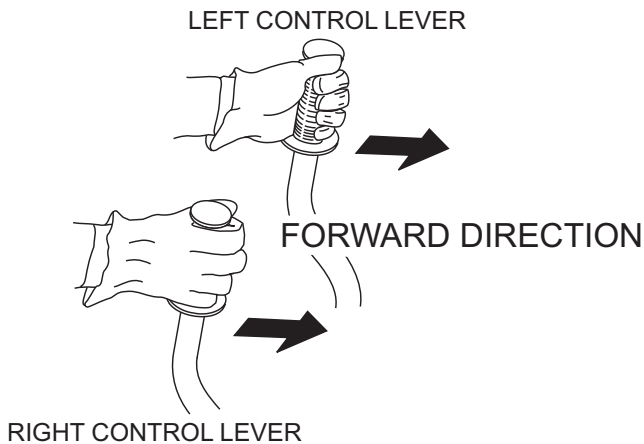

Figure 9. Left and Right Control Levers
1. Push both the left and right control levers forward. See Figure 9.